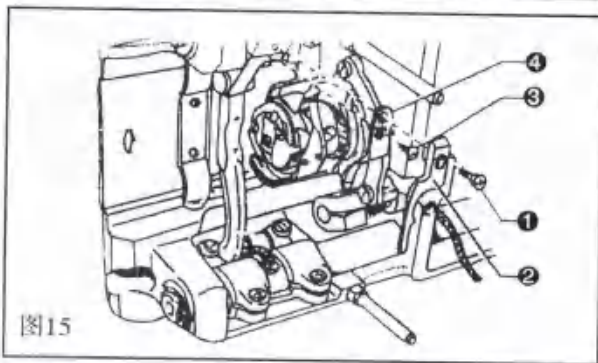
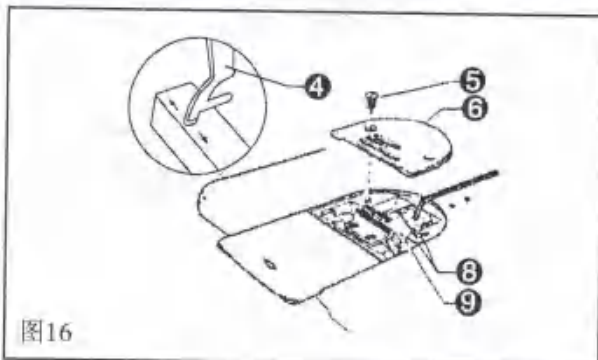

图15
图16
13.1. 定刀和动刀的更换 (图15、图16、图17.1 (旋刀) REPLACE THE COUNTER KNIFE AND MOVING KNIFE (FIG15, FIG16, FIG17.1)
2. 取下紧固螺钉①和旋梭定位勾②
3. 拆下沉头螺钉③和定刀④
*切线不良时请磨定刀④ (如图16)
2). Take down the screw ① and positioning finger ②
3). Take down the screw ③ and counter knife ④ (Fig.16)